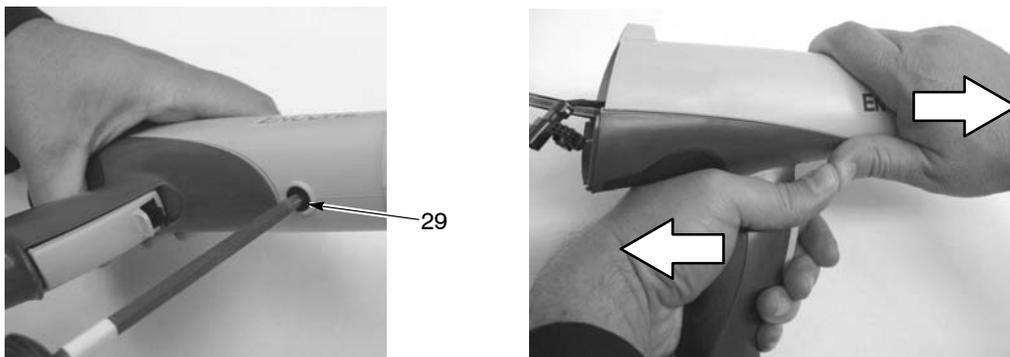

Figure 5-3 Removing the Gun Body from the Handle
4. See Figure 5-3. Remove the black nylon screw (29) from the gun body.